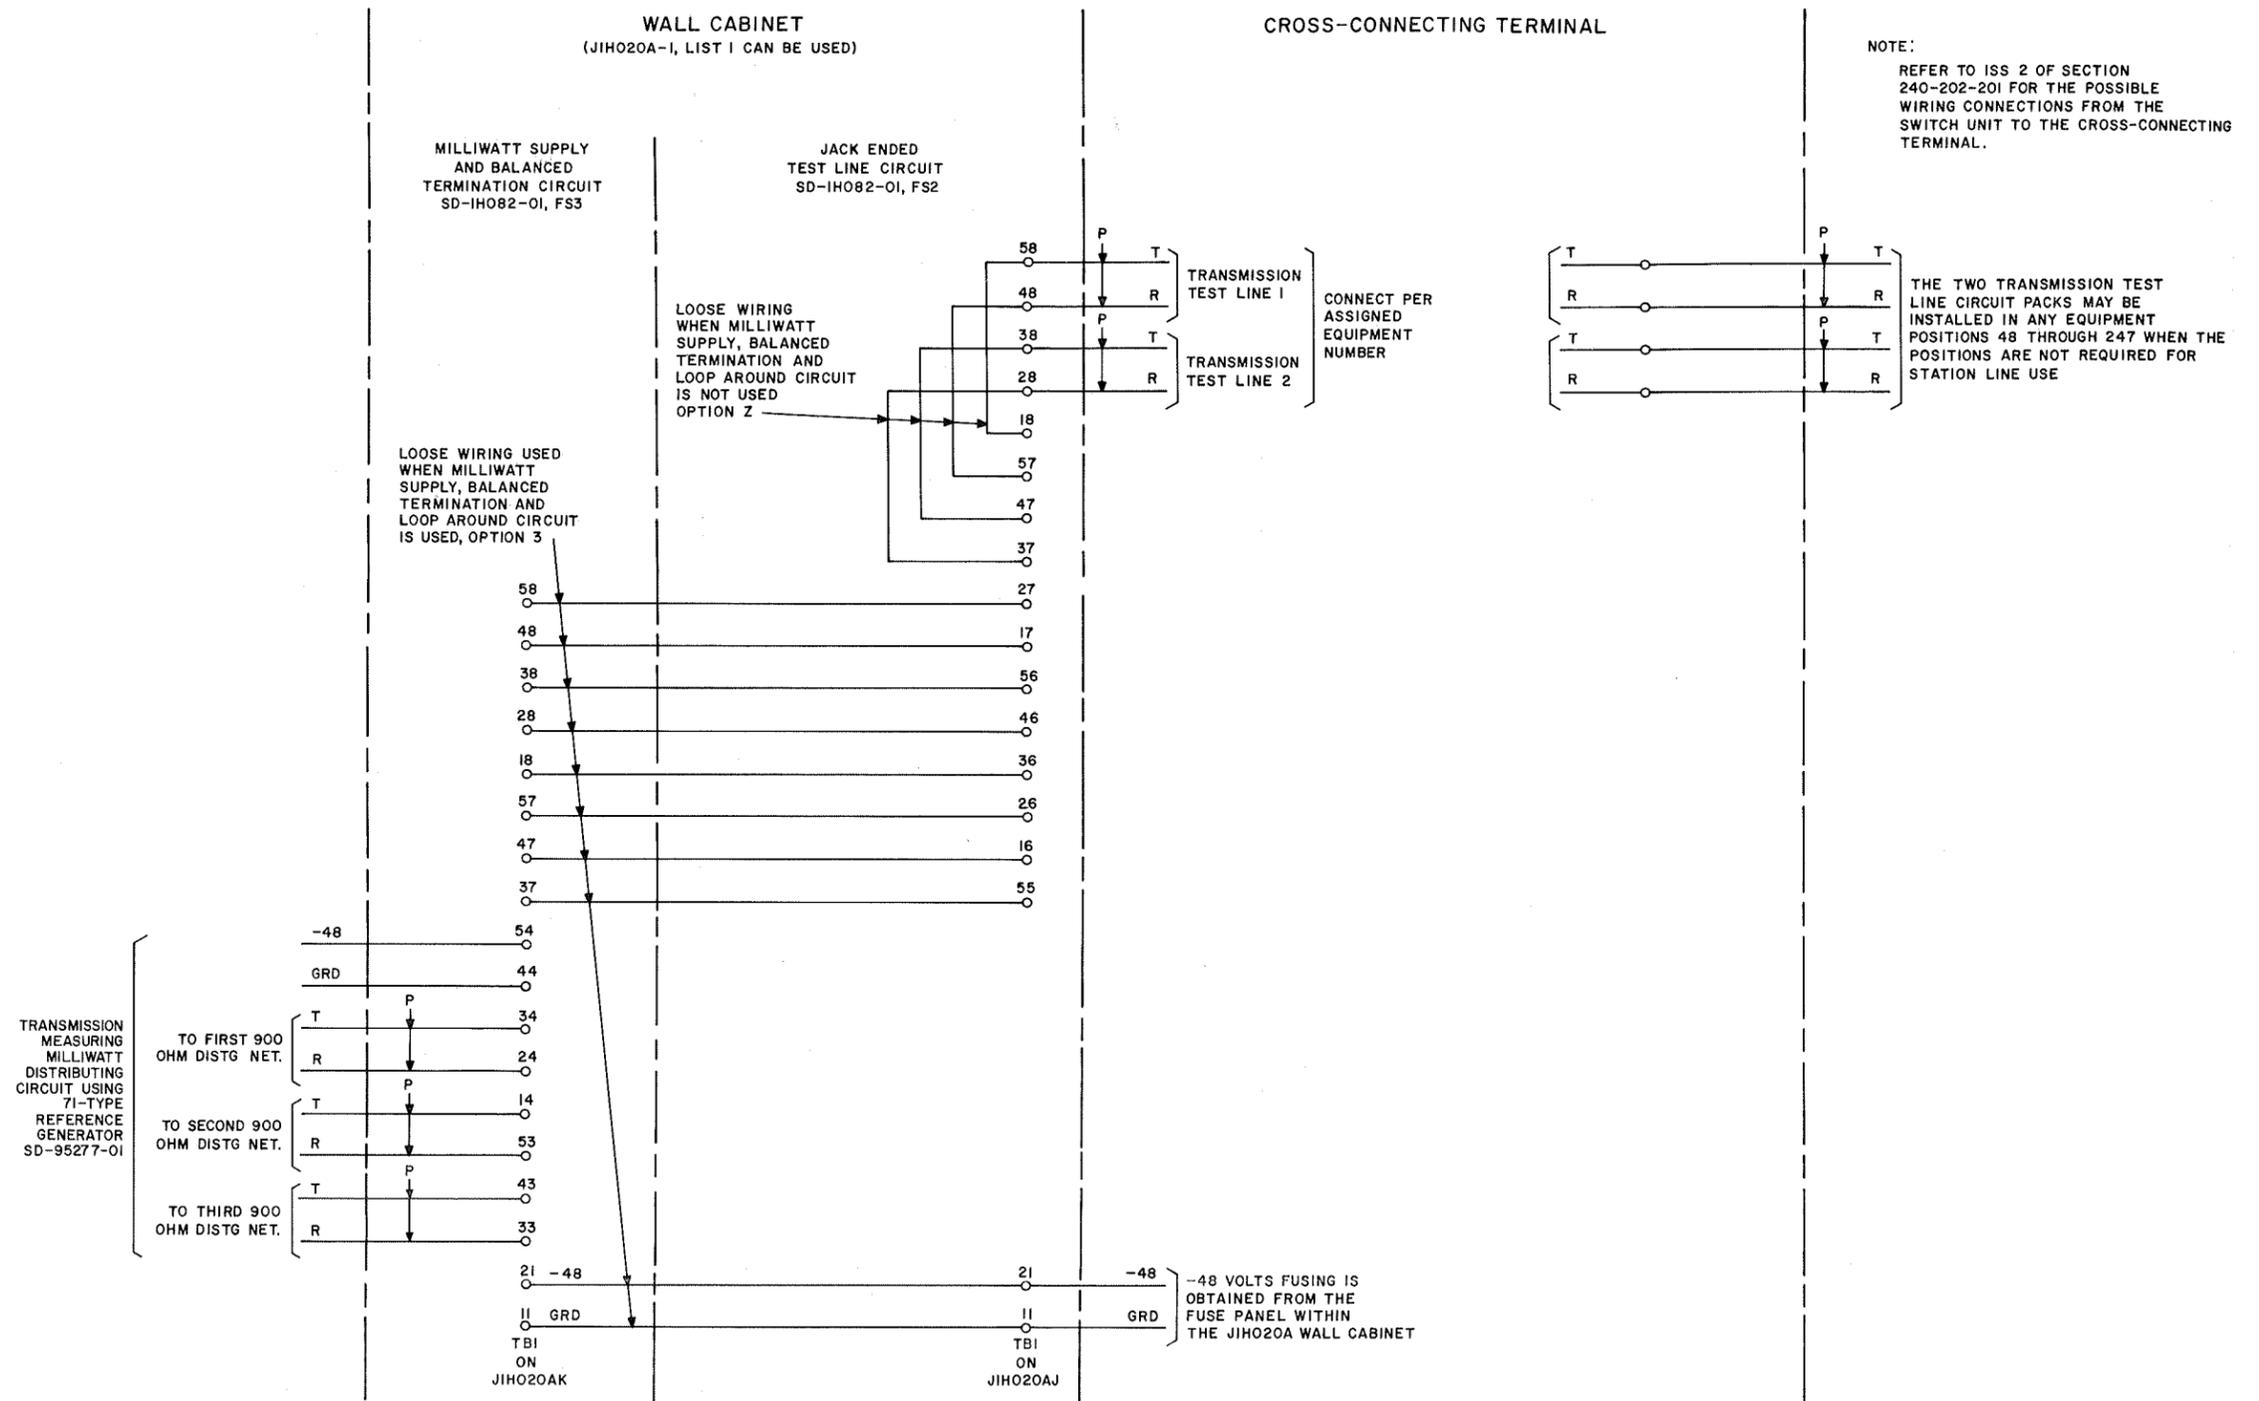

Fig. 9—Transmission Test Line Circuit Connections
**7.03** Figure 9 shows the connection of control wiring from the switch unit to the jack-ended test line circuit and the cross-connecting terminals. Wiring connection for the optional equipment and possible locations for the two CPs 141 are also shown in this figure.